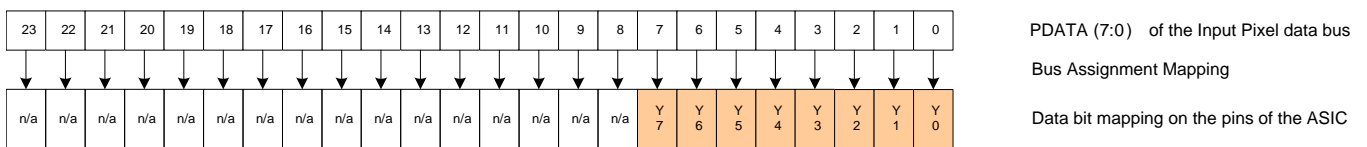

Figure 3. DLPC2607 PDATA Bus – BT.656 I/F Mode Bit Mapping (YCrCb 4:2:2 Source)
The DLPC2607 ASIC input interface supports the industry standard BT.656 parallel video interface. See the appropriate ITU-R BT.656 specification for detailed interface timing requirements. Map the BT.656 data bits to the DLPC2607 PDATA bus as shown in Figure 3. (1)